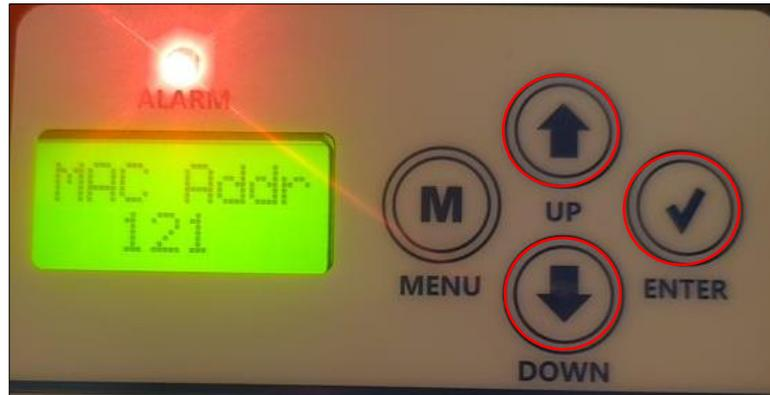

Figure 48: Setting The MAC Address On VCCX
4. Hit Enter and the MAC screen will display. Adjust the MAC Address by hitting the up and down arrows on the display keypad (see figure 48).